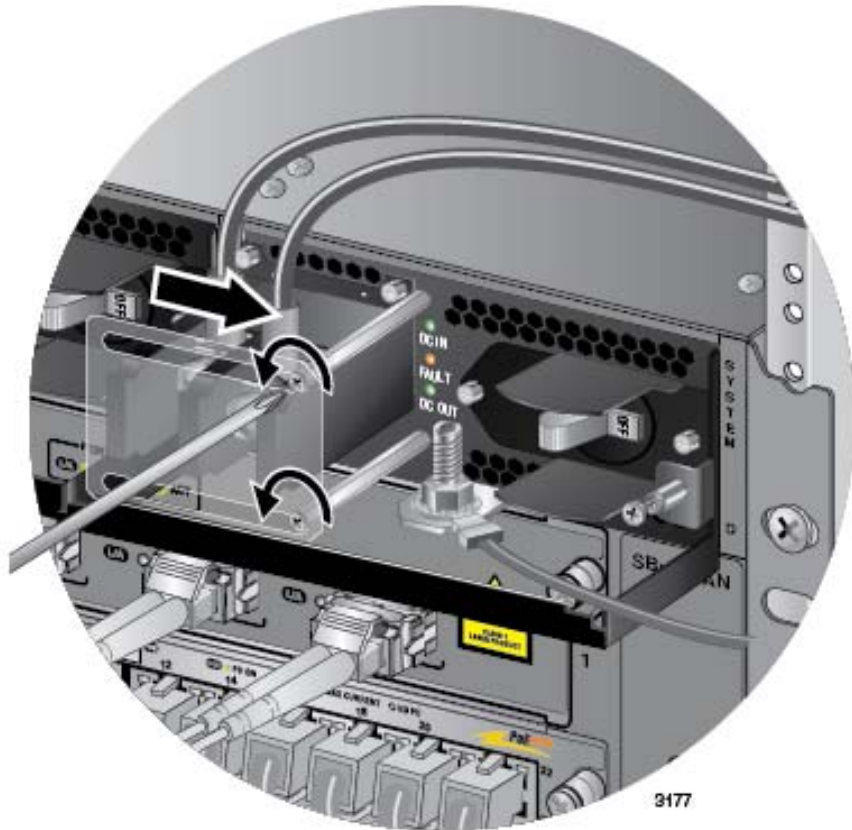

Figure 160. Opening the Plastic Window on the Terminal Block
4. Use a #1 screwdriver to loosen the two screws that secure the plastic cover over the terminal block and slide the cover to the right. You may need to slightly lift the locking handle to access the bottom screw. Refer to Figure 160 on page 262.